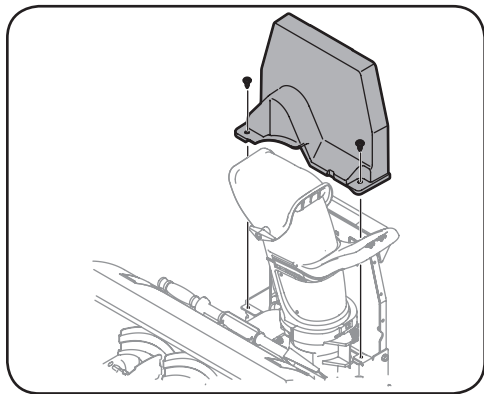

Figure 5-1
1. Remove the plastic belt cover on the snow thrower attachment by removing the two self-tapping screws that secure it. See Figure 5-1.
2. Remove the plastic belt cover on the snow thrower attachment by removing the two self-tapping screws that secure it. See Figure 5-1.